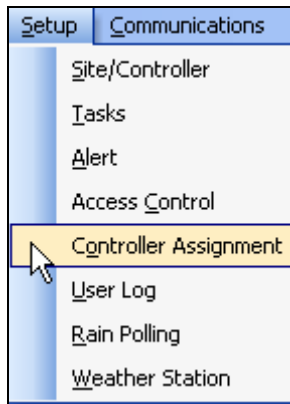

Figure 5.0.1
1. In the upper toolbar select **Setup**. Then scroll down to **Controller Assignment** and click on it (Figure 5.0.1).